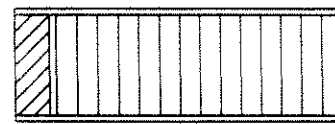

FIG. 7
- 6.5 Remove masking tape. Sand excess EA934 to desired finish. See Figure 7.